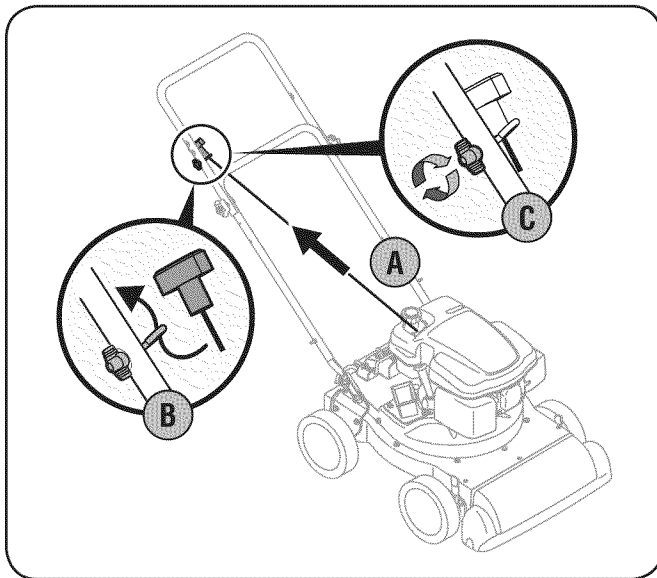

Figure 3-3
- c. Tighten the wing nut. See Fig. 3-3.